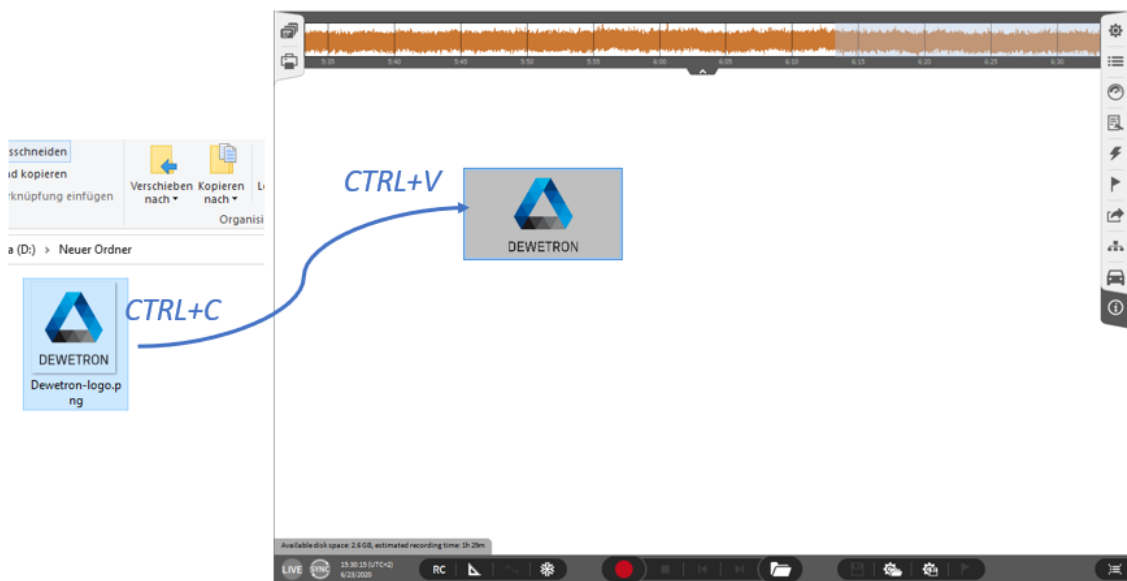

Fig. 8.32: Pasting an image file to the measurement screen
**Note:** An image file (.jpeg or .png) can also be copied and pasted directly from the Windows Explorer into the OXYGEN measurement screen (see Fig. 8.32).